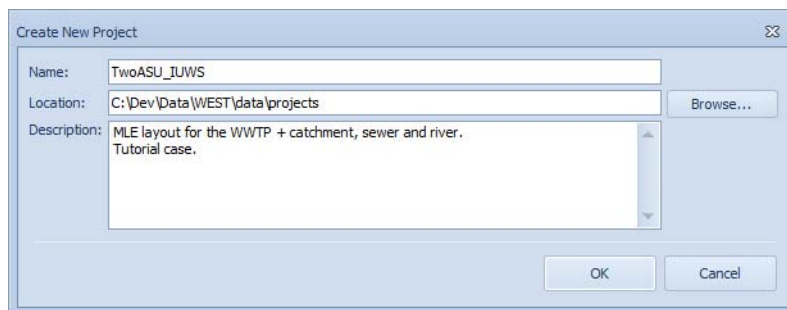

Figure 14.1 Create New Project dialogue, to create the IUWS sample from the MLE template
- This will automatically create a New Project (Figure 14.1)